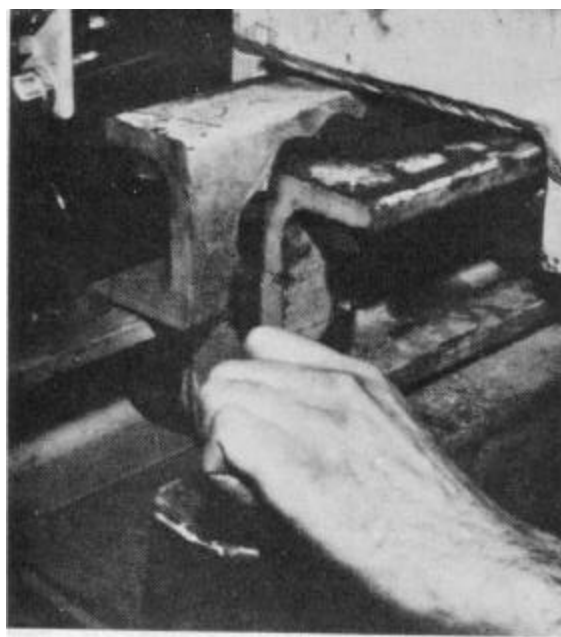

Figure 5-105
7. Remove the two allen head screws from the upper flanges of the telescoping section assembly, use a 3/8 allen wrench (Fig. 5-105).
8. Remove the two capscrews from the umbilical hose fitting cover using a 7/16 wrench. Remove the cover to expose the hose fittings and fitting support bracket (Fig. 5-105).
9. Disconnect the seven (7) outer hose fittings using an 11/16 wrench. Disconnect the electrical control cable connector, P8A, from J8A, inside the vehicle chassis.